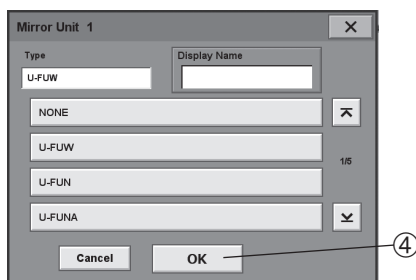

Fig. 12
3. Register the mirror unit actually mounted on the BX63 for each mirror unit number. Tap one of the mirror unit numbers in use ③ to open the [Mirror Unit] screen for the number (Fig. 12).
4. Select the type of the mirror unit and tap the **[OK]** button ④ to register the type.